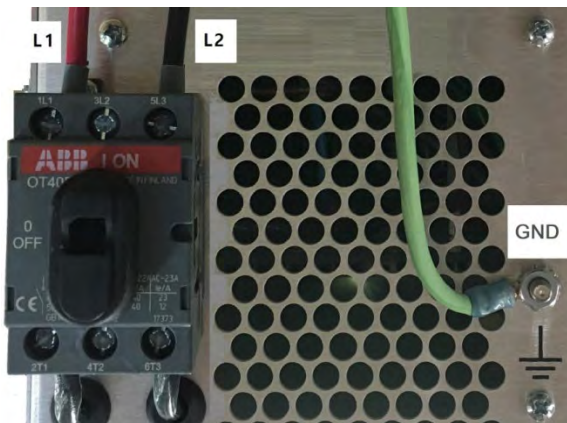

Figure 8 – PA Assembly AC Input
1. Use (1) Red, (1) BLK and (1) GRN/YEL AC cable to each PA assembly's AC Input Switch as shown in Figure 8.